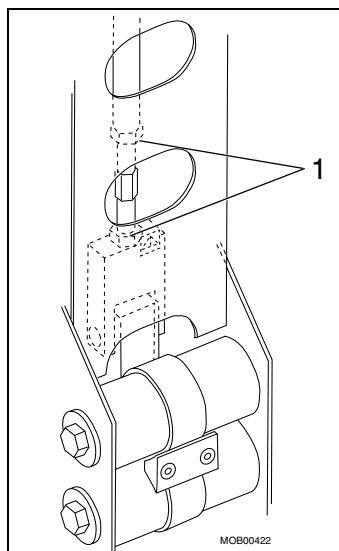

Fig. 6 Locking nuts
5. Raise the single tank to a position where both locking nuts (pos. 1 / Fig. 6) can be alternatingly reached through the punched holes of the chassis.